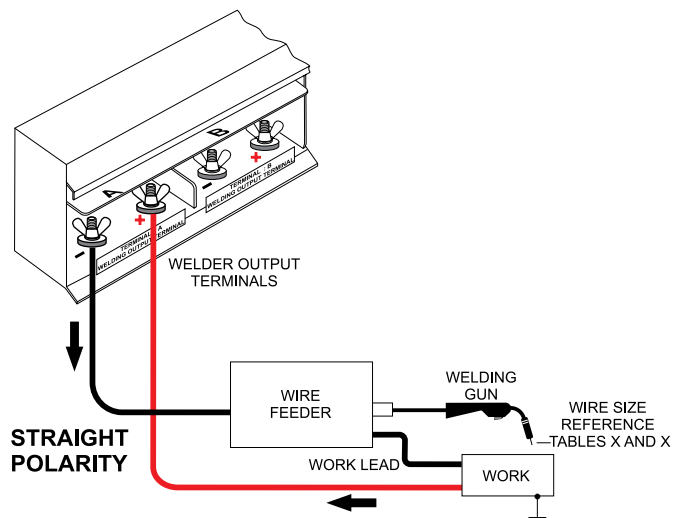

Figure 21. CV Setup (Wire Feeder)
A wire feeder (Figure 21) can be used when in the CV mode. The wire feeder utilizes the power output from the DC welding terminals. Consult the manufacturer's instructions when connecting the wire feeder to the welder-generator.
- Connect the welding cables from the welder-generator to the wire feeder as shown in Figure 21.